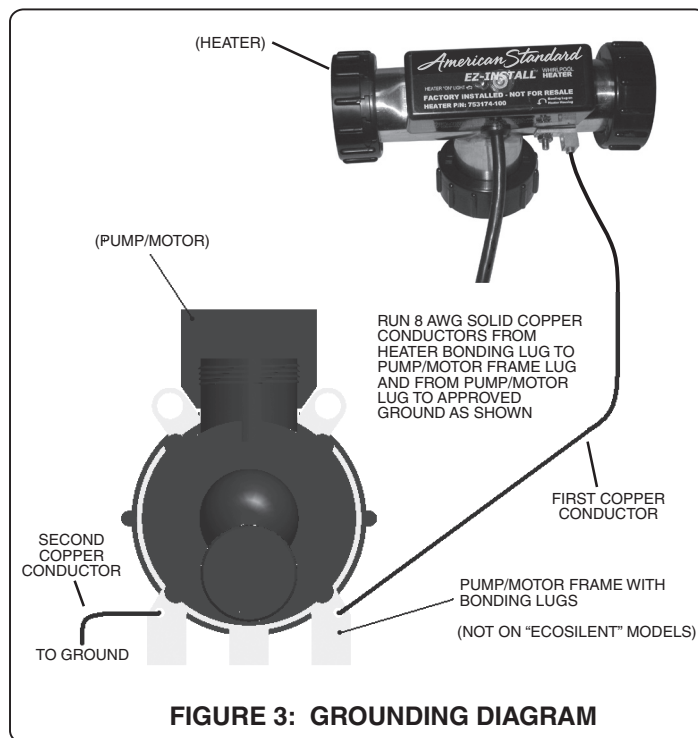

FIGURE 3: GROUNDING DIAGRAM
Ensure the heater and pump are properly GROUNDED and BONDED as required. Attach the 8 AWG solid copper conductor supplied with the heater from the heater bonding lug to the motor frame bonding lug as shown in Figure 3.
The conductor is secured to the lugs using set screws. The motor frame shall have a second 8 AWG solid copper conductor connected from the frame bonding lug to the home's electrical panel or approved local bonding point as shown in Figure 3.
**NOTE:** For all "EcoSilent" pump configurations, the pump housing is plastic. Therefore, the first copper conductor attached to the heater must be grounded directly to the home's electrical panel or approved local bonding point. this type of configuration does not need the second copper conductor shown in Figure 3.